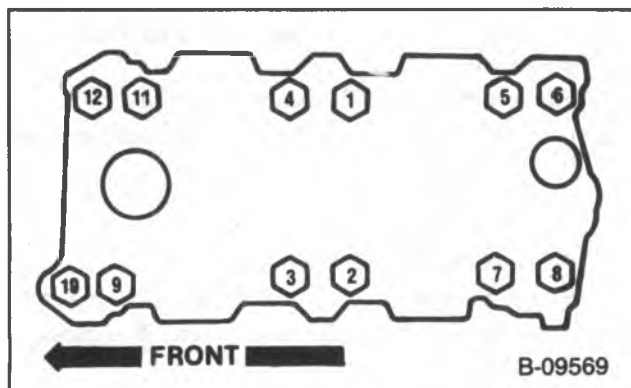

Figure 9 — Intake Manifold Bolt Tightening Sequence
- Intake manifold bolts to 48 N•m (35 ft. lbs.). Use the tightening sequence shown in figure 9.